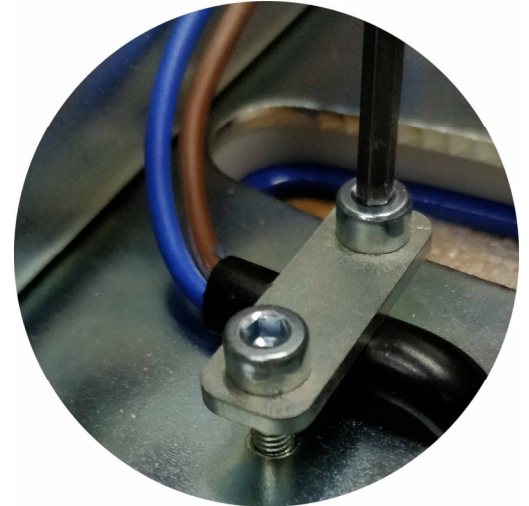

Figure 27, discharge plate Spreader Bar cord
5. Assemble the discharge plate across the Cord as shown in *Figure 27 (Hex 3)*. *Installation is possible using a perpendicular hex key.*